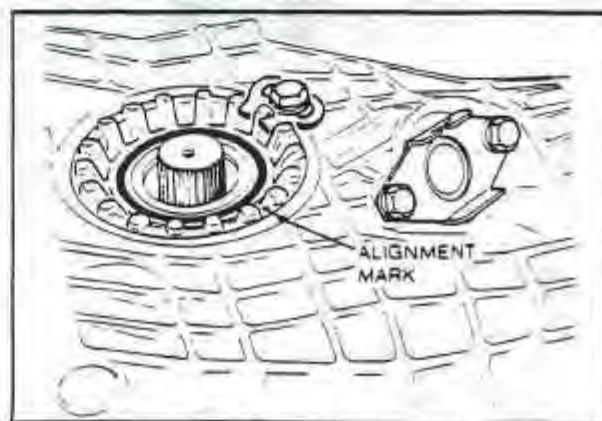

Fig. 23 DIFFERENTIAL ADJUSTING NUT
6. Remove the differential adjusting nut lock plate. Index mark the adjusting nut on the transmission case for installation. *Fig. 23*
3. Thread the adjusting nut into the case. THE EXACT NUMBER OF TURNS NOTED ON REMOVAL. Align the index marks and install the adjusting nut lock plate. *Fig. 23*